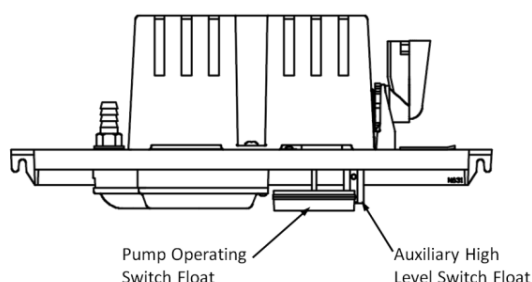

Figure 7
Step 3 Remove tank/cover assembly from tank (Figure 7).
- a. Remove (4) screws that secure the tank/cover assembly to the tank.
Step 4 Test pump operating switch by raising pump switch float (Figure 7).
Step 5 Test auxiliary high level switch by raising high level switch float (Figure 7).
- b. Secure the tank/cover assembly to the tank using (4) screws removed previously being careful not to over-tighten or strip during installation.
Step 1 Remove tank/cover assembly from tank (Figure 7).